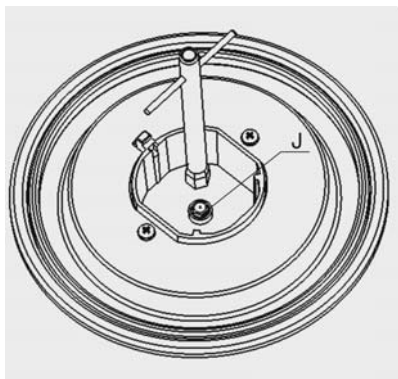

Figure 6
2. Use sleeve wrench, switch suit nozzle in place of J (Figure 6)